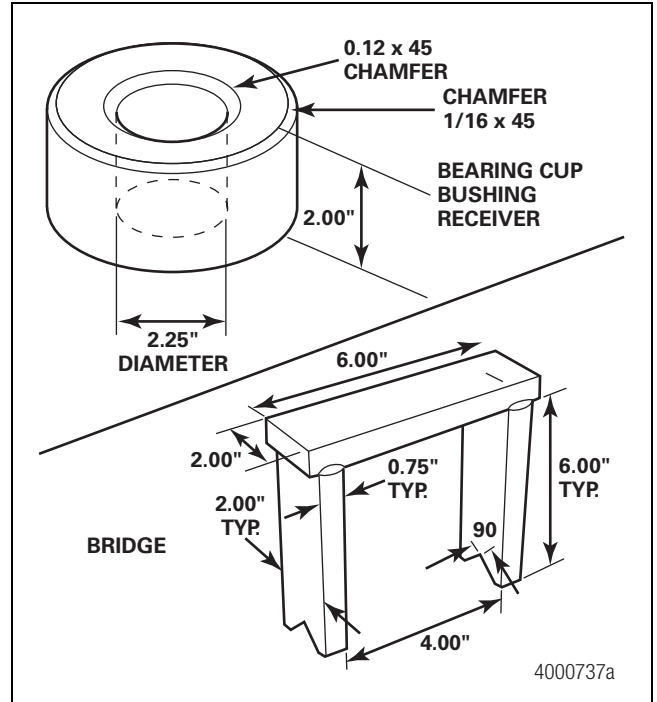

**Figure 10.5**
2. If necessary, use a brass drift and lightly tap the center of the bushing to assist in snap ring removal. Figure 10.5.